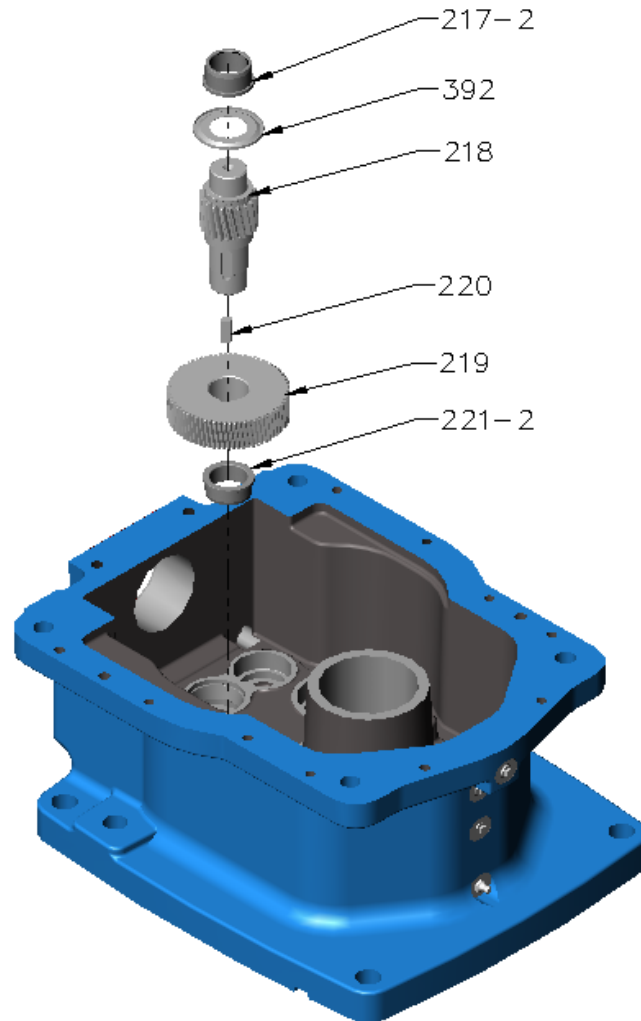

Figure 11 – Second Intermediate Shaft
- O. Remove second intermediate shaft assembly (refer Figure 11).
- P. Second intermediate shaft disassembly (refer Figure 11):